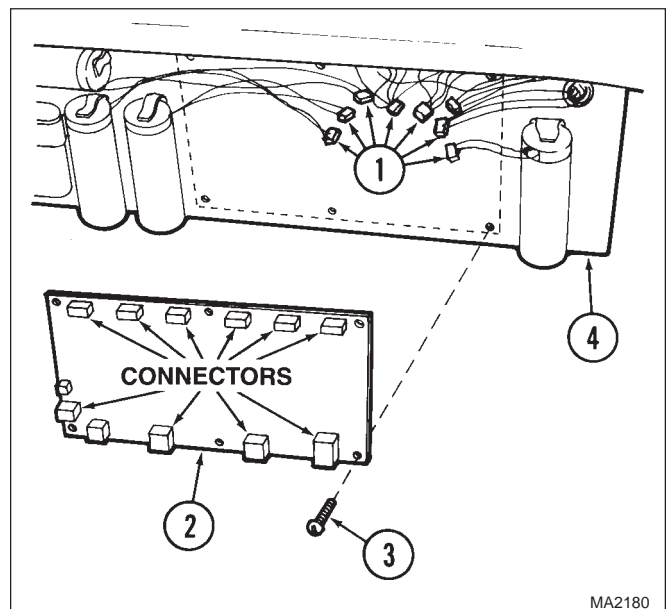

Figure 4-57. PC Control Board Removal / Installation
- (1) Disconnect all electrical power from the surgery table.
- (2) Remove the electrical cover (Refer to para 4-4).
- (3) Tag and disconnect ten wire harnesses (1, Figure 4-57) from connectors of PC control board (2).